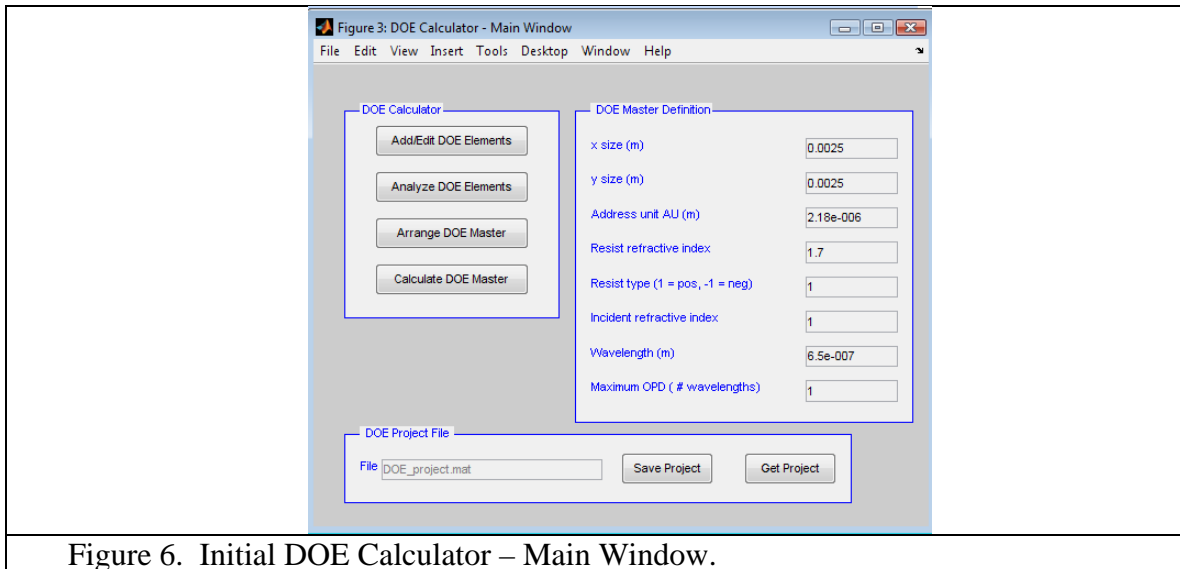

Figure 6. Initial DOE Calculator – Main Window.
- 13.) The Main Window for the DOE Calculator appears, as shown in Figure 6.